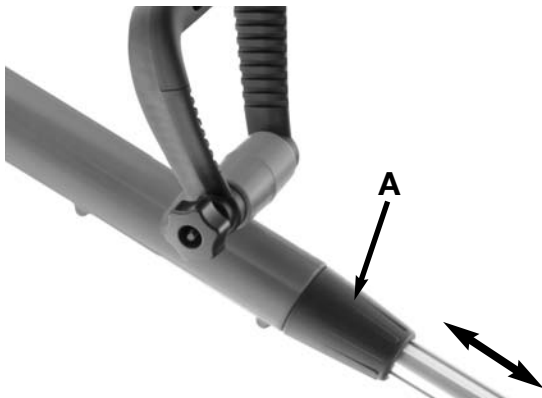

Fig. 2
1. Loosen the adjustment ring (A) by rotating the ring clockwise.
3. Tighten the adjustment ring (A) by rotating the ring (A) counter clockwise. (Fig. 2)